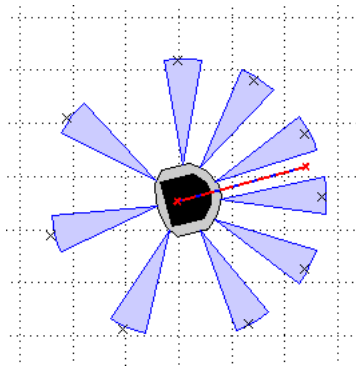

Figure 4: IR range to point transformation.
Start by downloading the new robot simulator for this week from <https://github.com/jdelacroix/simiam/tags>. This week you will be implementing the different parts of a controller that steers the robot successfully away from obstacles to avoid a collision. This is known as the avoid-obstacles behavior. The IR sensors allow us to measure the distance to obstacles in the environment, but we need to compute the points in the world to which these distances correspond. Figure 4 illustrates these points with a black cross. The
In `+simiam/+controller/+AvoidObstacles.m`, implement this transformation in the `apply_sensor_geometry` function. The objective is to store the transformed points in `ir_distances_rf`, such that this matrix has  $v''_1$  as its first column,  $v''_2$  as its second column, and so on. This matrix now contains the coordinates of the points illustrated in Figure 4 by the black crosses. Note how these points *approximately* correspond to the distances measured by each sensor (Note: *approximately*, because of how we converted from raw IR values to meters in Week 2).
2. Once you have implemented the second part, one black cross should match up with each sensor as shown in Figure 4. The robot should drive forward and collide with the wall. Note: The robot starts at an angle of  $\frac{\pi}{12}$ , instead of its usual angle of zero. The blue line indicates the direction that the robot is currently heading ( $\theta$ ).